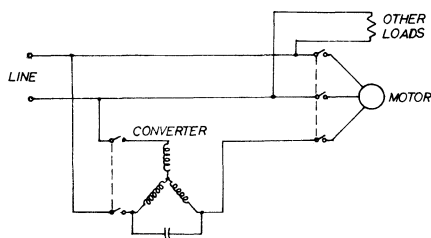

Figure 8.—Wiring of converter so that single-phase power can be supplied to other loads with the converter off.
1. In the connection shown in figure 8, power is switched to